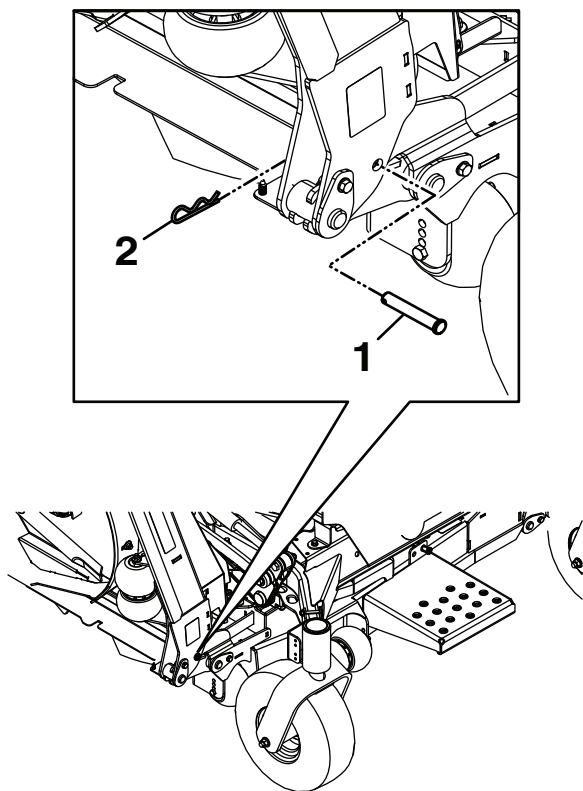

Figure 19
1. Remove the clevis pin and hairpin cotter that secures each wing in the upright position and place them in the storage position (Figure 18 and Figure 19).